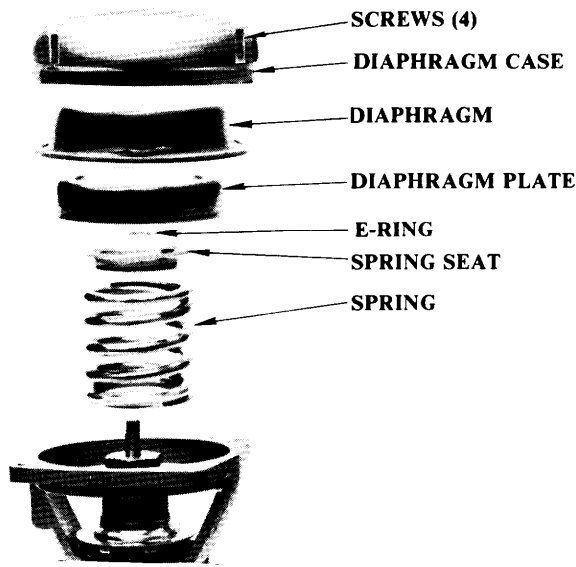

Figure 5 — REPLACEMENT OF SPRING
C. REPLACEMENT OF SPRING (Figure 5)